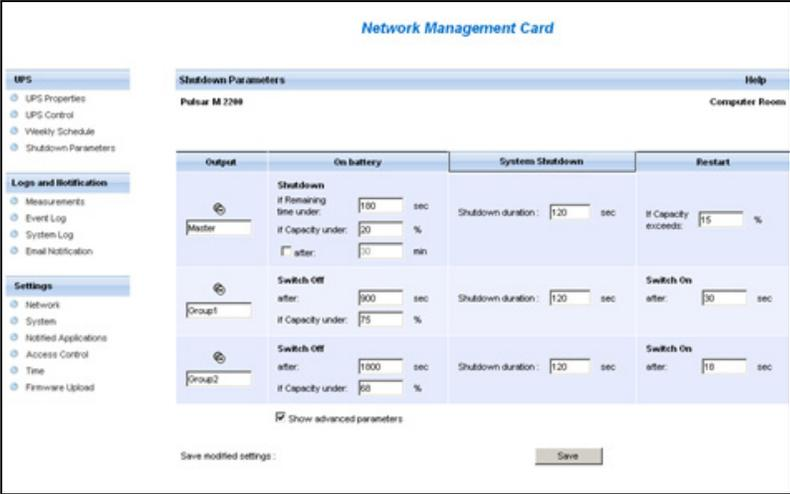

Figure 108. Network Management Card Web Interface
- For Network-MS (example, 66102/103006826) and Modbus-MS (example, 66103), the default configuration for the Network Management Card shutdown configuration is available from **UPS > Shutdown Parameters** (see Figure 108).